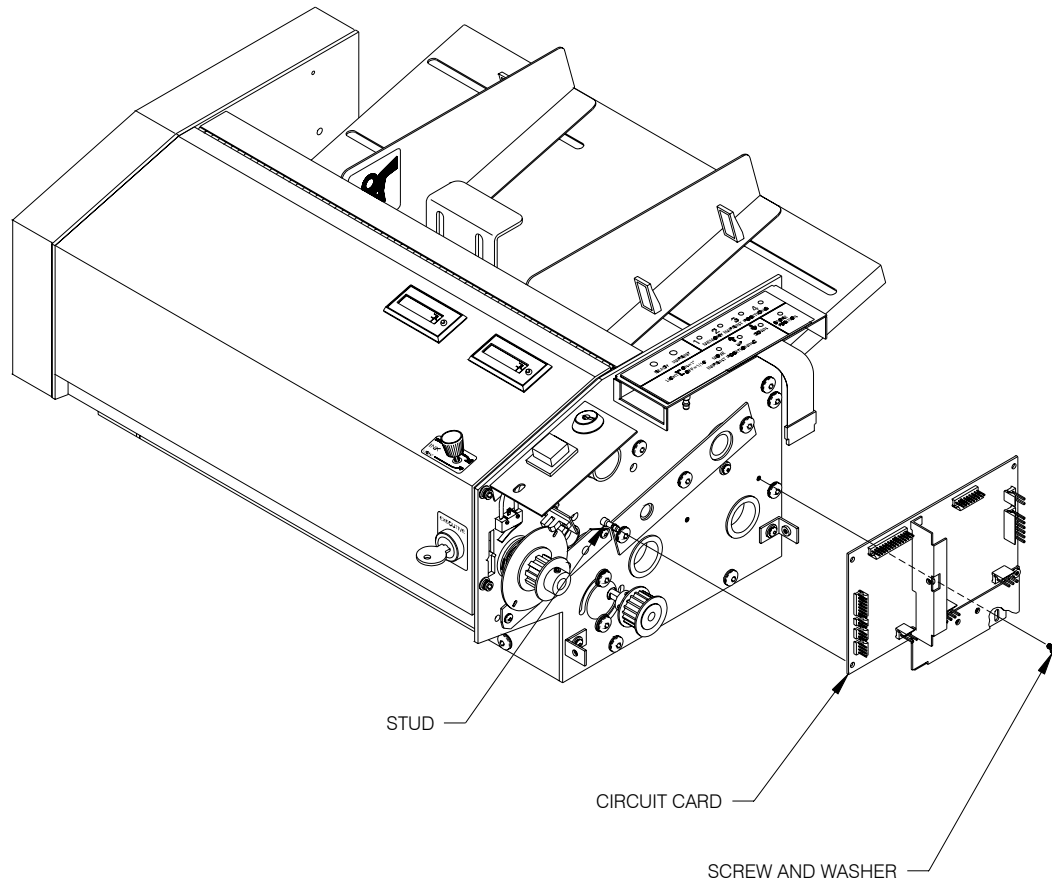

Figure 7.3 -- Replacing A Circuit Card
3. Remove the 2 SCREWS and WASHERS on the bottom of the CIRCUIT CARD. (Refer to **Figure 7.3.**)
4. Pull the CIRCUIT CARD off the 3 STUDS. (Refer to **Figure 7.3.**)